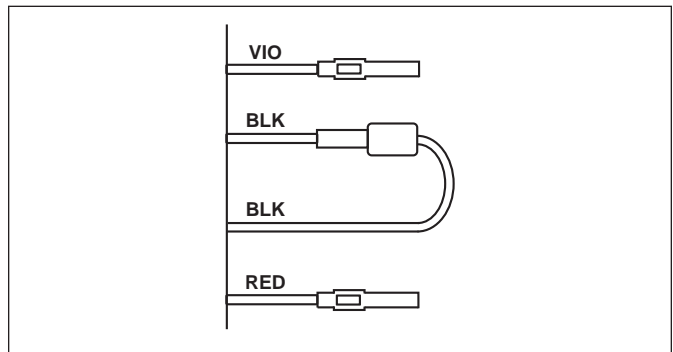

Figure 13. Pentair Heater Wiring Before Modification
2. Separate the black wires (common) from each other (see Figure 13).